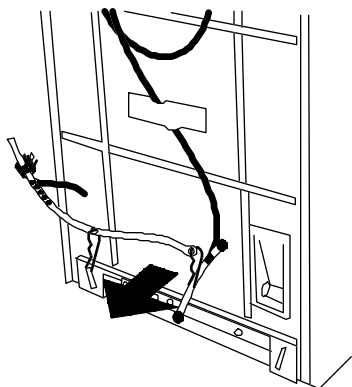

Fig. 1-1
- a. Carefully read, then remove the yellow label securing the power supply cord to the back of the washer. (*Fig. 1-1*)